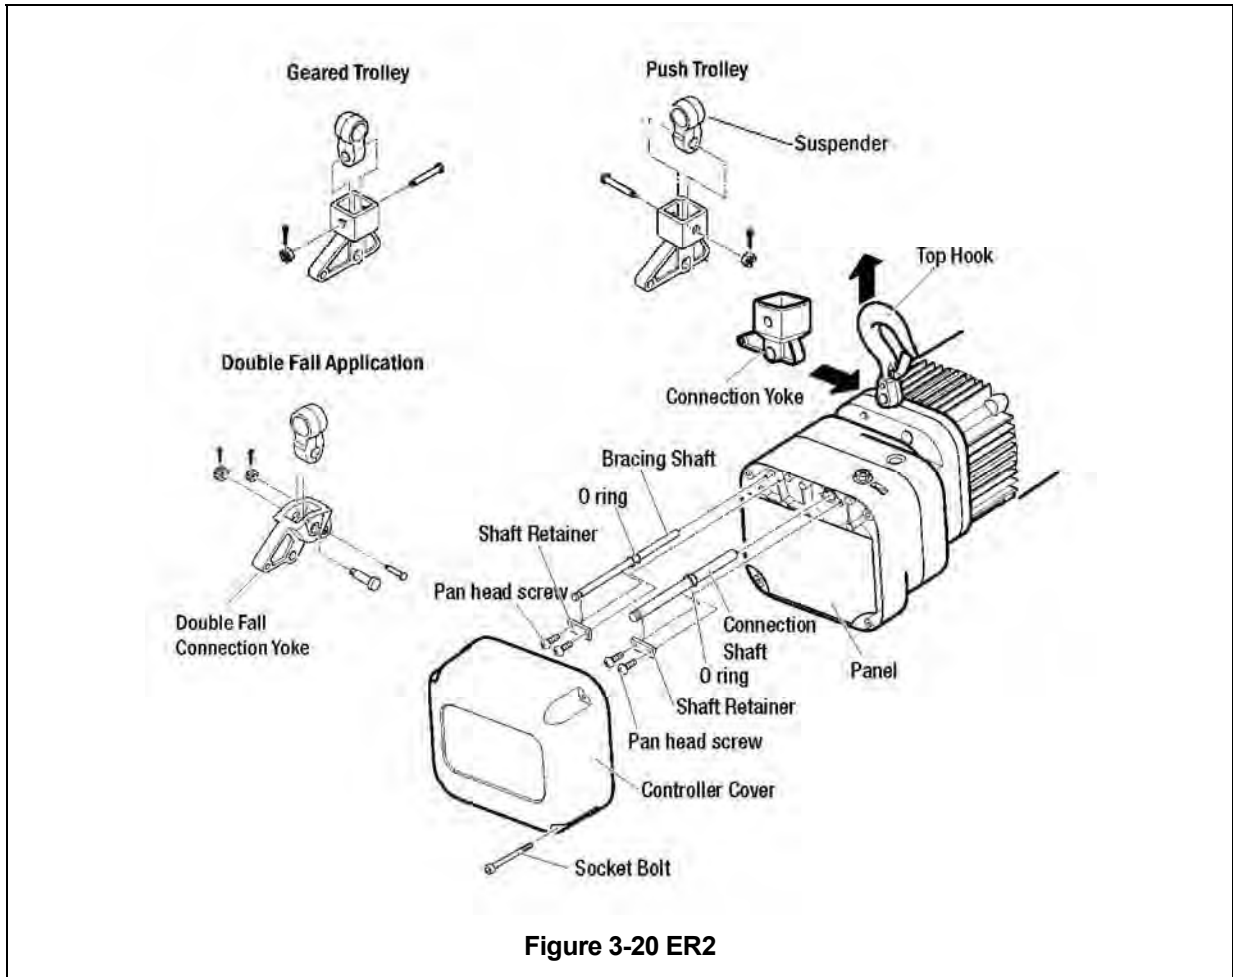

Figure 3-20 ER2
- 1) Refer to **Figure 3-20**
- 7) Install appropriate Suspenders for the application, securing it to the Connection Yoke with the Yoke Bolt, Slotted Nut, and Slit Pin. **Note: (See Figure 3-20) Double Fall applications require a Chain Pin, small Slotted Nut, and small Split Pin, in addition to the Yoke Bolt, Slotted Nut, and Split Pin.**